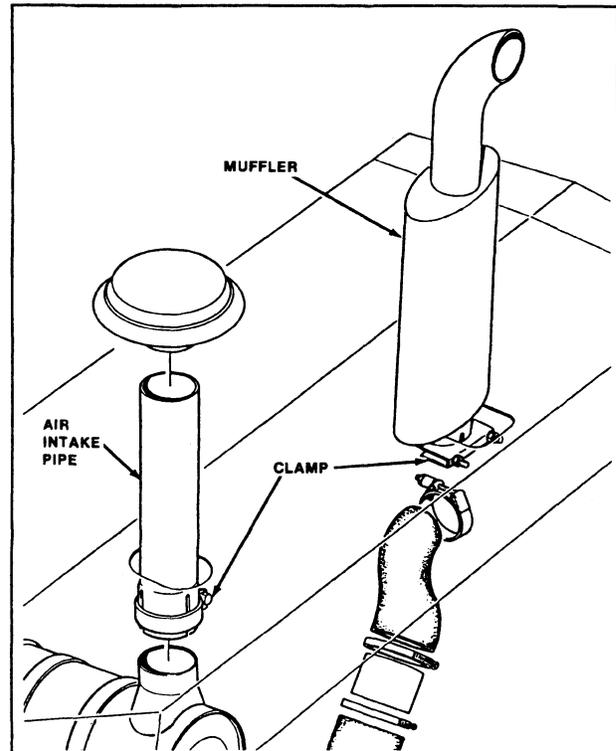

FIGURE 2-3: Muffler and Air Intake Cap Removal
4. Remove muffler and air intake cap on air cleaner (Figure 2-3).